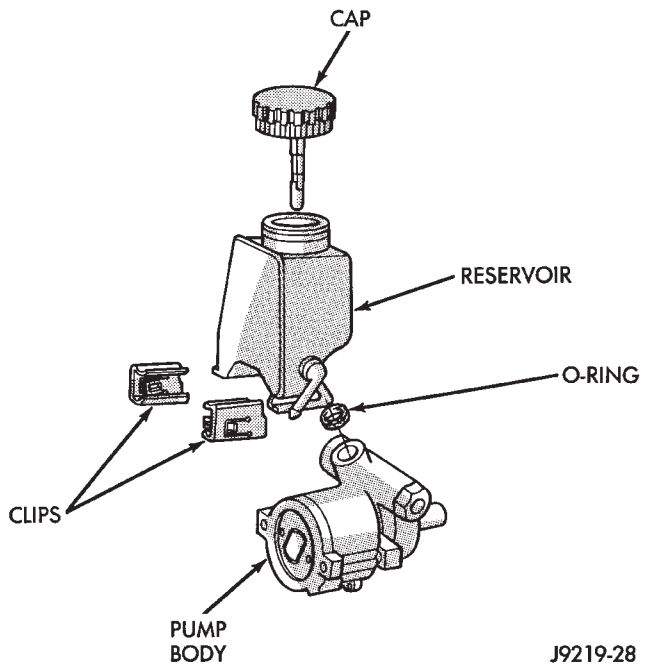

Fig. 9 Remove Reservoir—Typical
(5) Remove fluid reservoir from pump body. Remove and discard O-ring seal (Fig. 9).